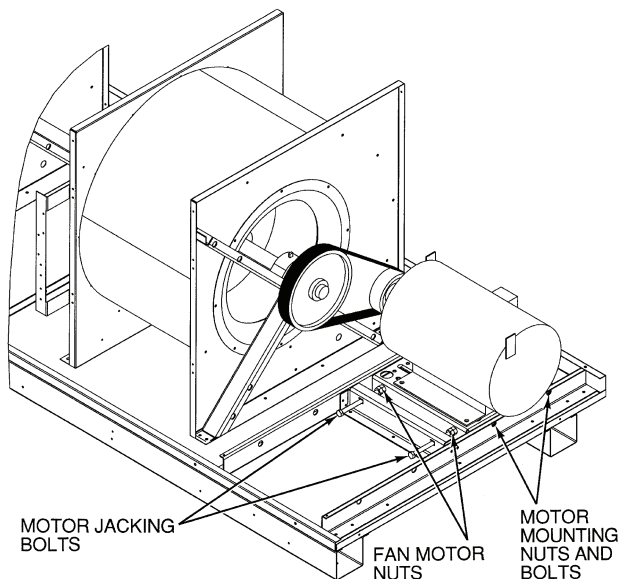

Fig. 69 — Belt Tension Adjustment
2. Loosen motor mounting nuts and bolts. See Fig. 69.